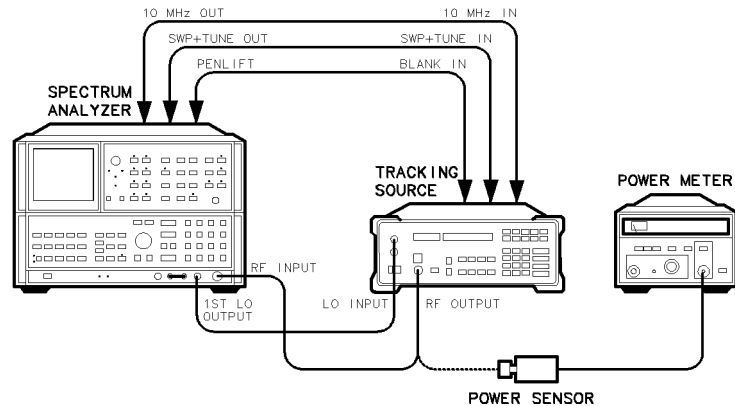

Figure 2-2. HP 85645A Maximum RF Power Level Setup
1. Connect the equipment. (Refer to Figure 2-2.)